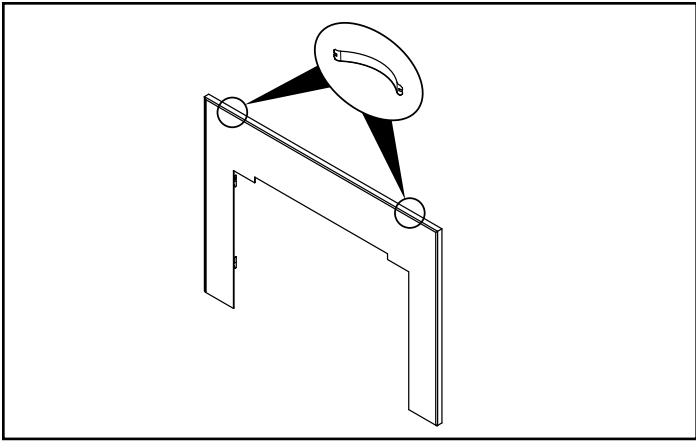

Figure 5.14
- 5. Install two steel springs at the top on each side and between the flat surround and the assembled trim kit as shown in **Figure 5.14**.